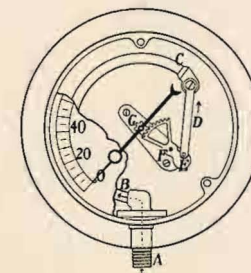

Fig. 17.—A Bourdon pressure gauge.
**29. Pressure gauge.** Fig. 17 shows the details of the Bourdon type of pressure gauge, which may be used to measure the pressure exerted by either a liquid or a gas. The fluid enters at A and passes into a curved tube B made of brass and having an elliptical cross section. The upper end of the tube is closed at C and is connected by the link D to the outer end E of a lever pivoted at F. The inner end of the lever carries a set of teeth and these mesh with a pinion G, to the spindle of which is fastened the indicating hand.
One type of temperature gauge consists of a Bourdon pressure gauge similar to that in Fig. 17 connected by a fine bore tube to a bulb which is immersed in the oil. The bulb, connecting tube and Bourdon tube are made of steel